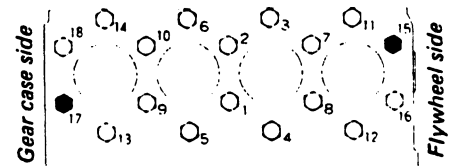

Fig. 23. Tightening of Cylinder Head Bolts
■ **Tightening cylinder head capscrews (Fig. 23)**
- (1) The tightening torque of the cylinder head capscrews is 54 to 58 ft.-lbs. (7.5 to 8.0 kg.-m). Numbers 11, 13 and 15, 17 (◆) in the diagram are studs. The nuts on these studs should also be tightened to this torque.
- (2) All the capscrews must be tightened uniformly. To do this, tighten all the capscrews in the order indicated on the diagram until they are just snug. Then tighten each one 1 (one) turn at a time in this same sequence each time until all have been tightened to the required torque.
- (3) The cylinder head capscrews should be re-tightened if the engine has not been used for a long time. The valve lash should also be adjusted each time the cylinder head capscrews are retorqued. If the cylinder head gasket has been replaced, run the engine for about 30 minutes and re-tighten the cylinder head capscrews as described above.